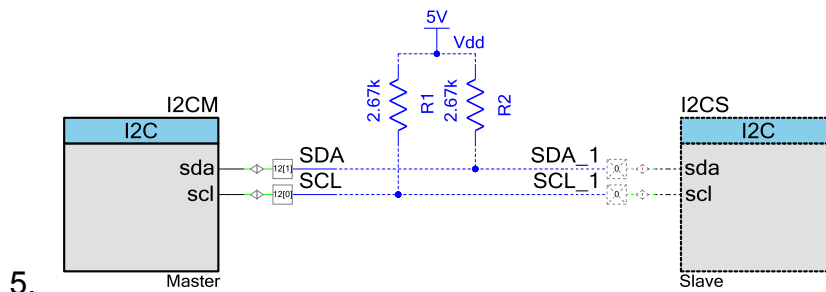

Figure 1. Connection of SDA and SCL to pull-up resistors
3. For the I2C communication, connect P12[0] to SCL, P12[1] to SDA. Use 2 external 2.67k resistors to pull-up SCL and SDA to 5V (Figure 1). Note that Figure 1 is a depiction for the
4. Externally connect the corresponding pins (SCL and SDA) on I2C Slave board to the master test board as depicted in Figure 1.